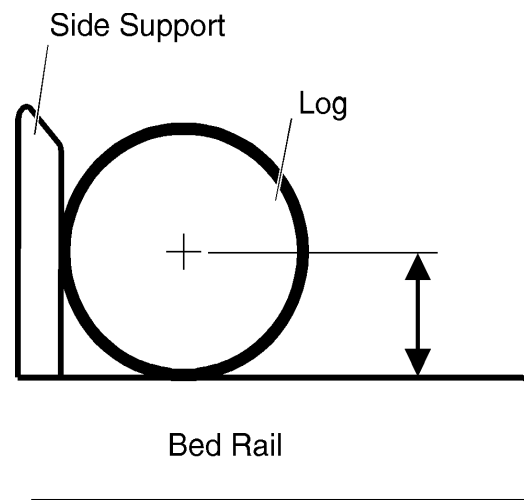

FIG. 1-1
1. Measure from the bed rail or auxiliary support to the heart of the log. **See Fig. 1-1.**